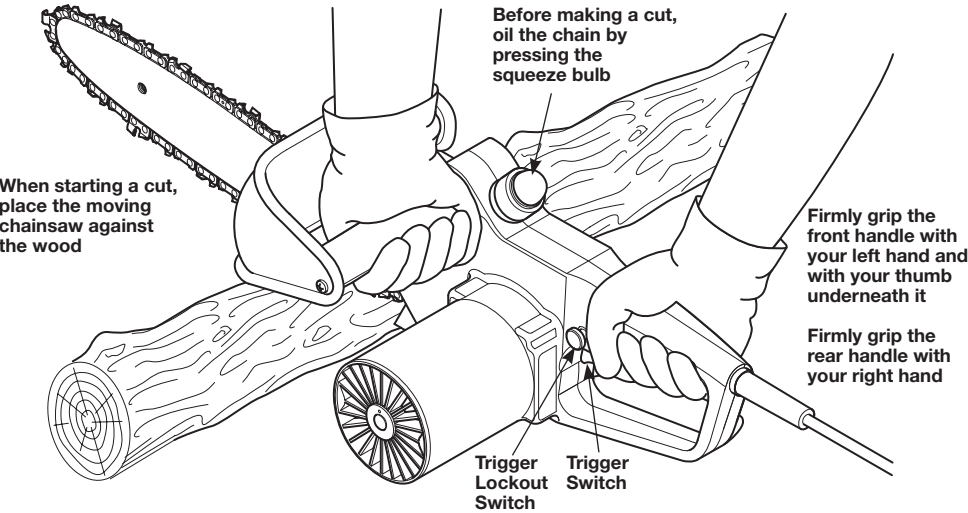

Fig. 8 Safe Procedure for Cutting a Log with the Chain saw
- Securely grip both handles of the chain saw with your thumbs and fingers. Use a firm grip with your left hand on the front handle with your thumb underneath. Use your right hand to firmly grip the rear handle (Fig. 8).
- When you are ready to make a cut, press the trigger lockout switch in with your right thumb while also squeezing the trigger with your right hand fingers (Fig. 8). This will immediately switch the power of the chain saw on. Releasing the trigger switches it off.
- When starting a cut, place the moving chain saw against the wood (Fig. 8). Hold the chain saw firmly in place while cutting through the log. This will help to prevent a possible bouncing or skating, sideways movement of the log.